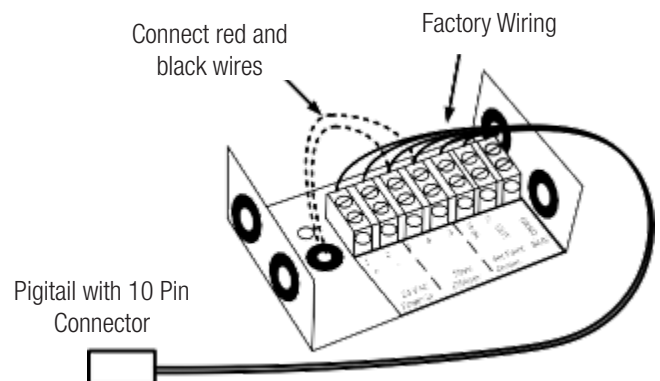

Fig. 5
11. Connect the red wire(s) to terminal 3 and the black wire(s) to terminal 4 (see Figure 5).